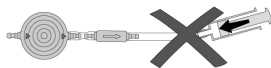

Fig. 19: Avoidance of pressurisation
- ▶ **Pressurisation with a single-use syringe should be avoided both at the proximal and the distal end. (Fig. 19).**